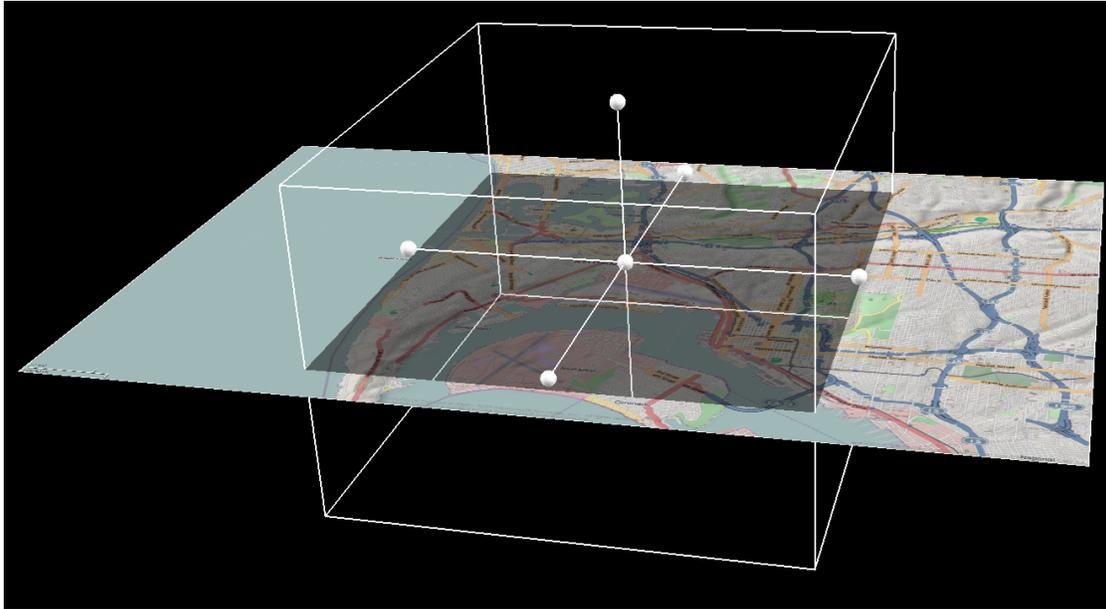

Figure 1.3. An example of a crop tool associated with an aerial photo
- *Crop Tool, Opacity, and Drawing Mode*: Figure 1.3 illustrates an example of a *Crop Tool* that consists of a box and 7 control handles (white spheres). The *Crop Tool* is used together with *Opacity* and *Drawing Mode* to cut the graphical object. You can drag the handles to modify the size of the box. Some items, such as DXF or Shapefile, allow you to rotate the box horizontally by dragging one of its faces. The portion of the graphical object that lies inside the box (i.e., the crop area) are drawn by using the settings of *Opacity (inside crop area)* and *Drawing Mode (inside crop area)*. Similarly, the portion that lies outside the box are drawn using the settings of *Opacity (outside crop area)* and *Drawing Mode (outside crop area)*. Visual effects can be achieved by assigning proper opacity values and drawing modes to each of those areas. In Figure 1.3, for example, the opacity